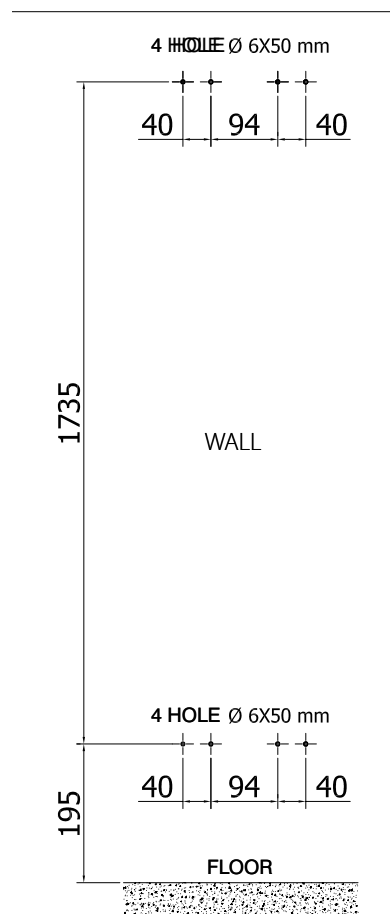

Fig. 2
1. Drill the 8 holes (Fig.2) with a diameter of 6 mm and minimum depth of 5 cm. Insert the plastic screw anchors into the holes.